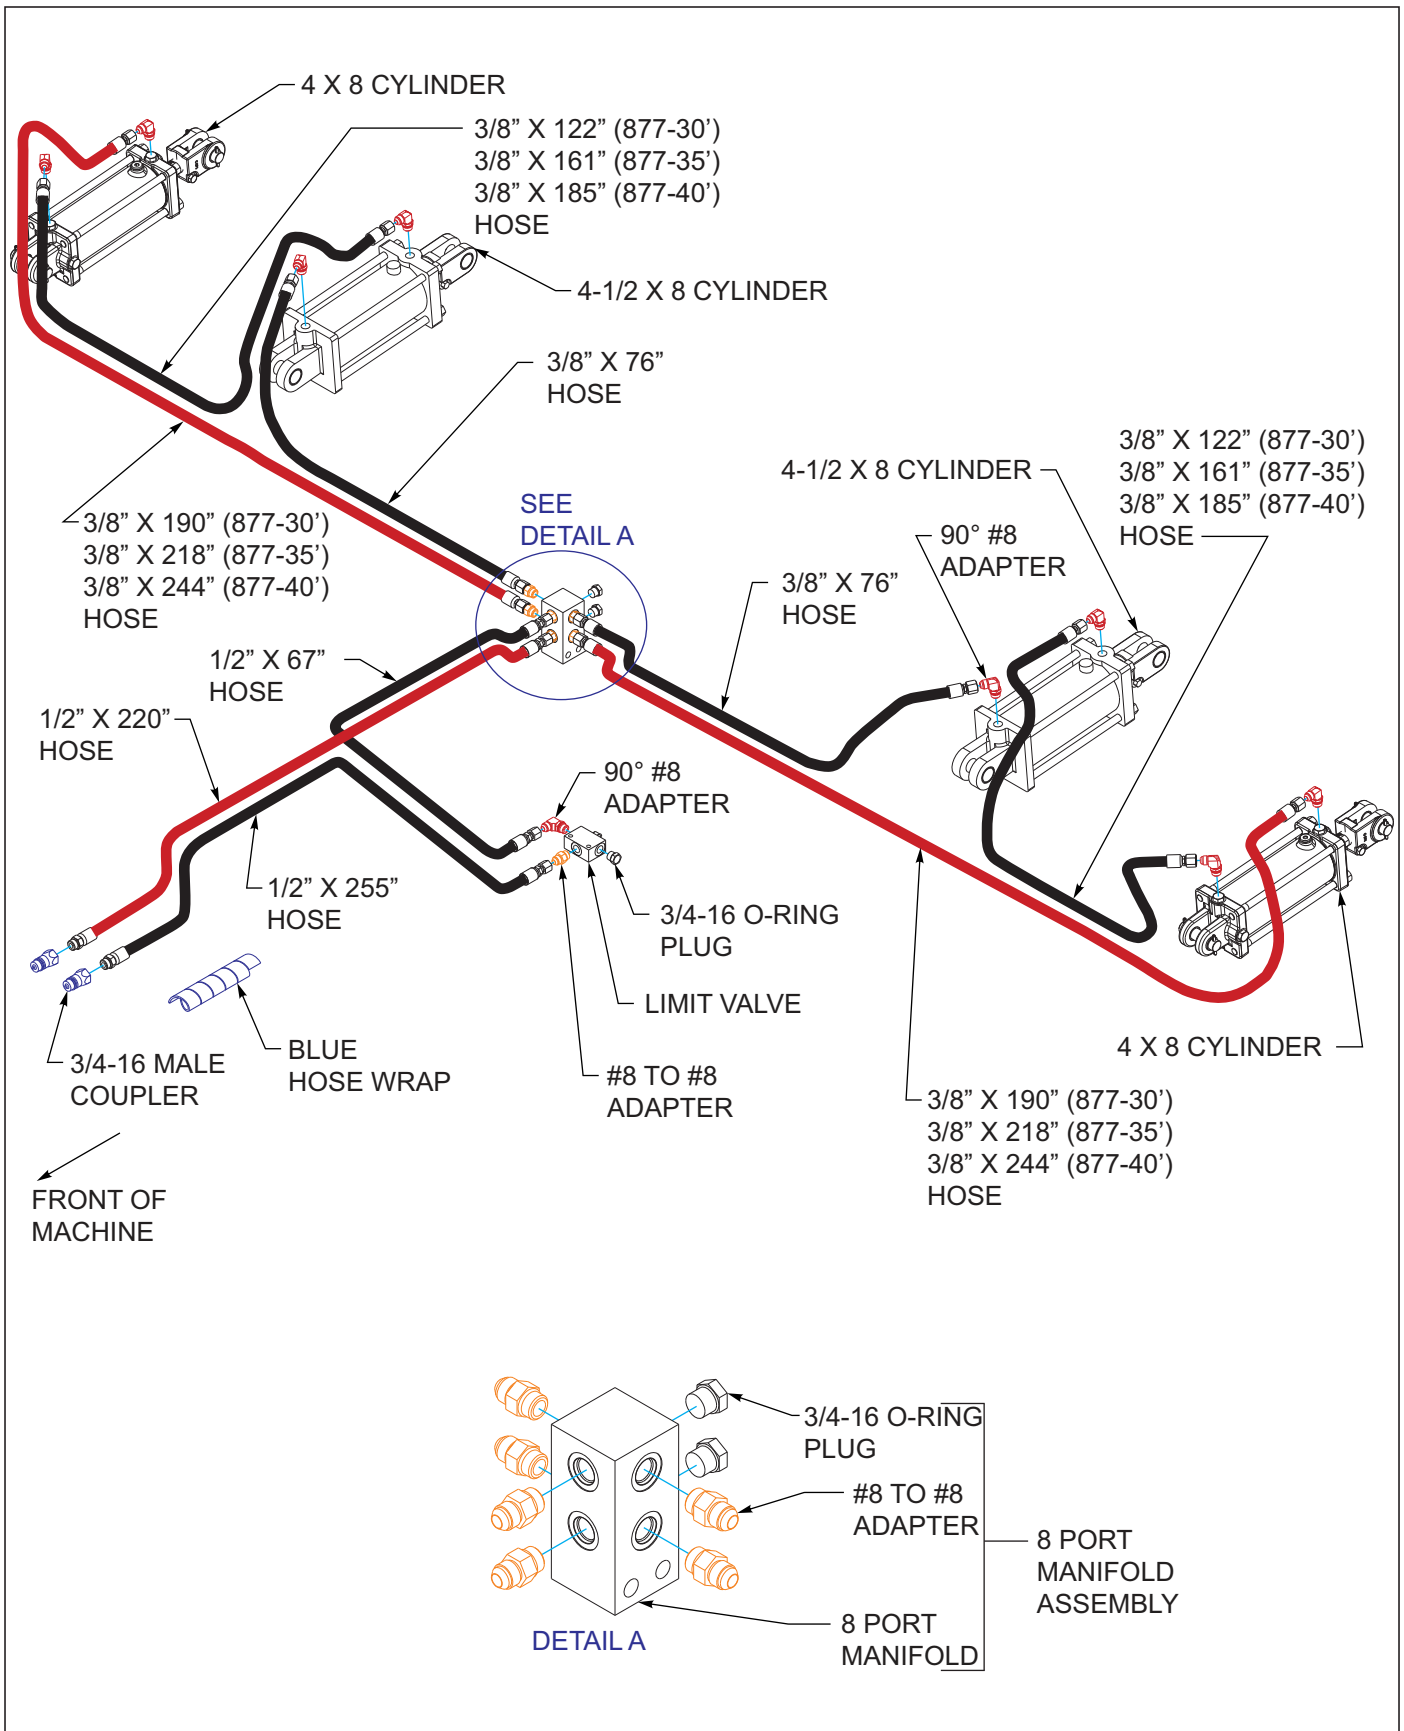

Figure 3-15: Lift Hydraulic Installation
8. Install a 90 deg elbow in the right side of the limit valve facing forward and adapter to front side of limit valve facing forward (opposite the button) See Figures 3-15.
See Figures 3-15 for Hydraulic Lift Installation.
3. Install 90° #8 adapters into base and rod end of each lift cylinder See Figures 3-15.
5. Install lift cylinder hoses and couplers See Figures 3-15. Wrap lift cylinder hoses with blue hose wrap.